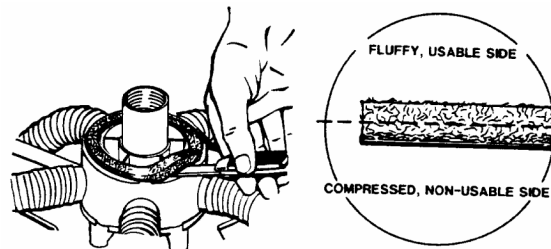

FIG. 20
5. Change the felt seal (Figure 20). This is recommended after every ten hours of use. (For